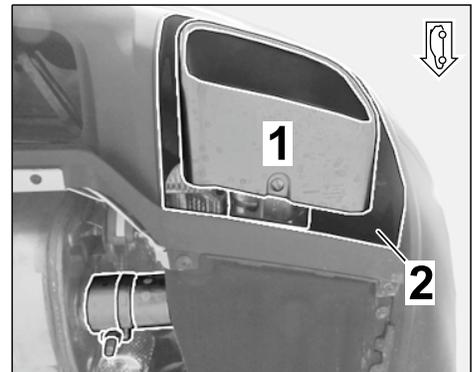

Figure 4
1.3.1 Loosen hexagon nut on clamp for tailpipe – (left/right ⇒ *Figure 4*).